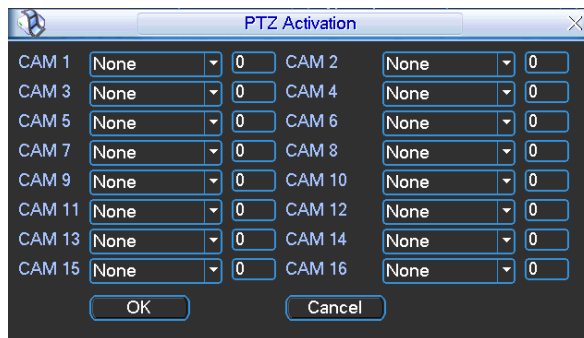
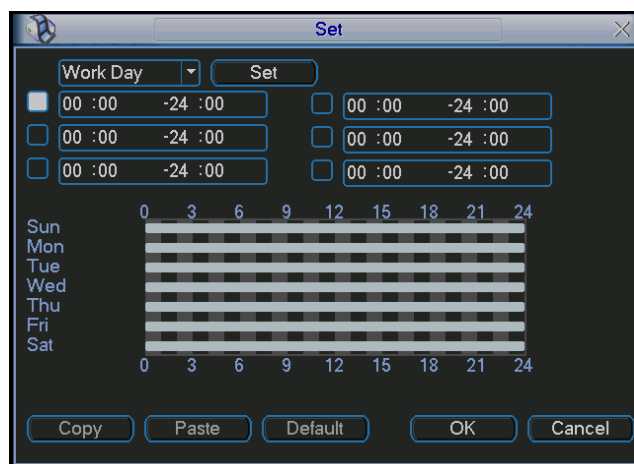

Figure 5-56
Figure 5-57
- # In Figure 5-56, click "select" button, you can see an interface is shown as in Figure 5-57. Here you can set the activation operation such as preset tour, pattern and enable.